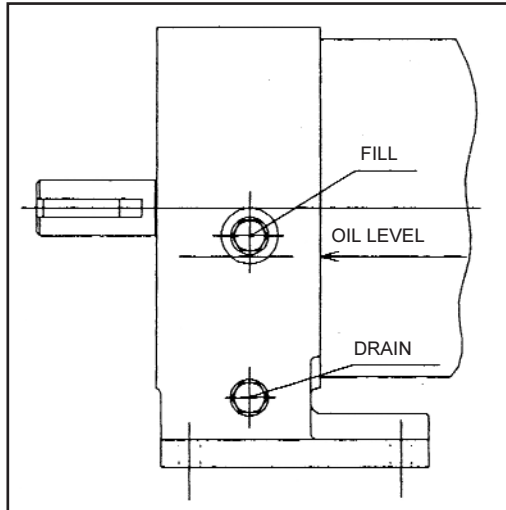

Figure 9
- Before running pump for the first time check oil level as Figure 9.
- After the first 120 hours of operation, drain oil from lower plug hole and refill with fresh oil as Figure 9. Use correct grade of oil as below or other reputable manufacturer's equivalent gear oil: